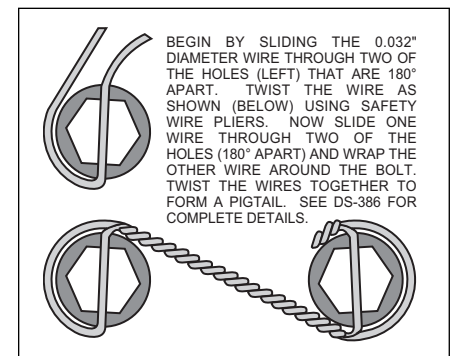

Figure 6. Safety Wire Diagram
•**NOTE:** Please reference the caution statement at the beginning of the assembly instructions. WITH THE BLEED SCREWS POINTING UP, mount the caliper (4) over the rotor (3) and onto the caliper mounting bracket (1) using lock washers (5) and mounting bolts (6). View the rotor through the top opening of the caliper. The rotor should be aligned in the center of the caliper. If not, adjust the caliper by using 0.032 inch shims (7) by placing them between the caliper mounting bracket (1) and the caliper (4). Apply red *Loctite*® 271 to the mounting bolt threads (6), torque to 30 ft-lb. Safety wire the caliper mounting bolts (6) using standard 0.032 inch diameter stainless steel safety wire as shown in Figure 6. Please refer to Wilwood's data sheet DS-386 (available at www.wilwood.org/ds386.pdf) for complete safety wire installation instructions.
•Position the Wilwood disc brake pads (8) into the caliper (4) and fasten with cotter pin (9). Steel backing plate side of brake pad should face the caliper pistons.
•Before final installation of the wheel, install a couple of lug nuts and adjust the parking brake shoes outward (using a drum shoe adjustment tool available at your local auto parts store) while spinning the rotor/hat (3) until a slight drag is felt again the hat/drum.